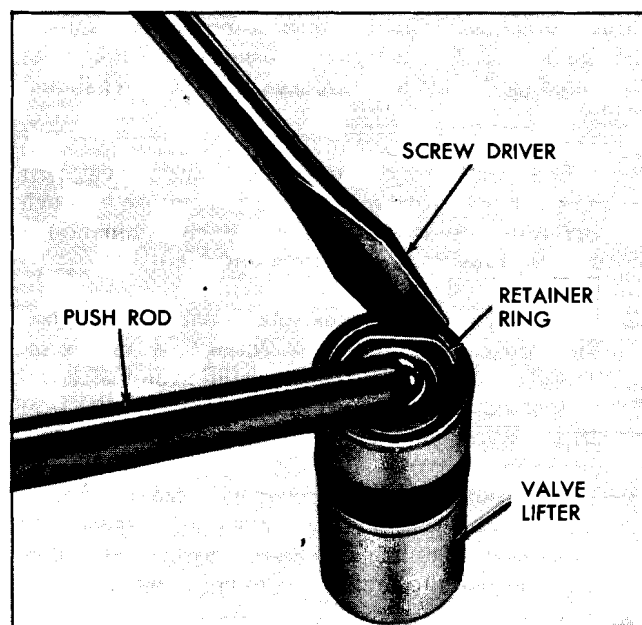

Fig. 6-107 Removing Pushrod Seat Retainer
1. Remove push rod seat retainer ring by holding seat down with push rod while dislodging ring from lifter body with a pointed tool (Fig. 6-107).